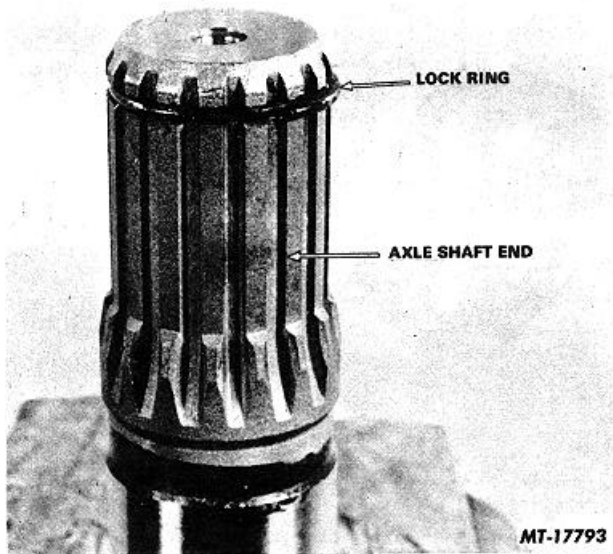

Fig. 18 Axle Shaft Lock Ring
4. Install new lock ring on axle shaft end and place axle shaft in a vise equipped with soft jaws. See Fig. 18.